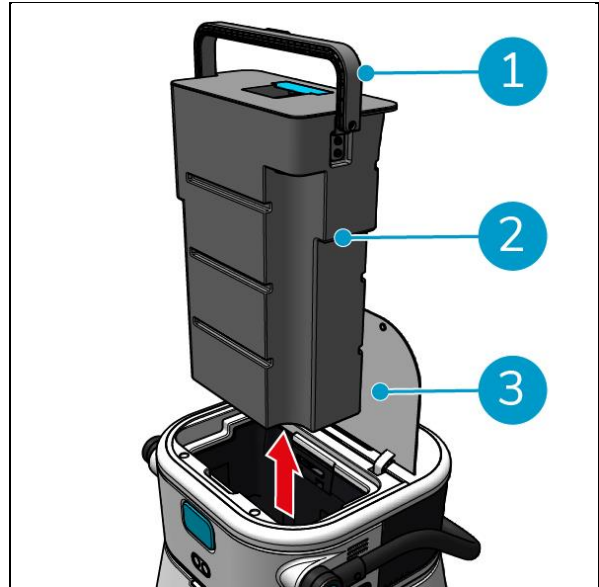

Figure 30
1. Gently open the lid of the recovery tank compartment (Figure 30, pos. 3) on top of the co-botic™ 45.
2. Flip the recovery tank handle (Figure 30, pos. 1) to a vertical position and remove the recovery tank.
15. Replace the recovery tank in the opposite direction of the arrow, see Figure 30.